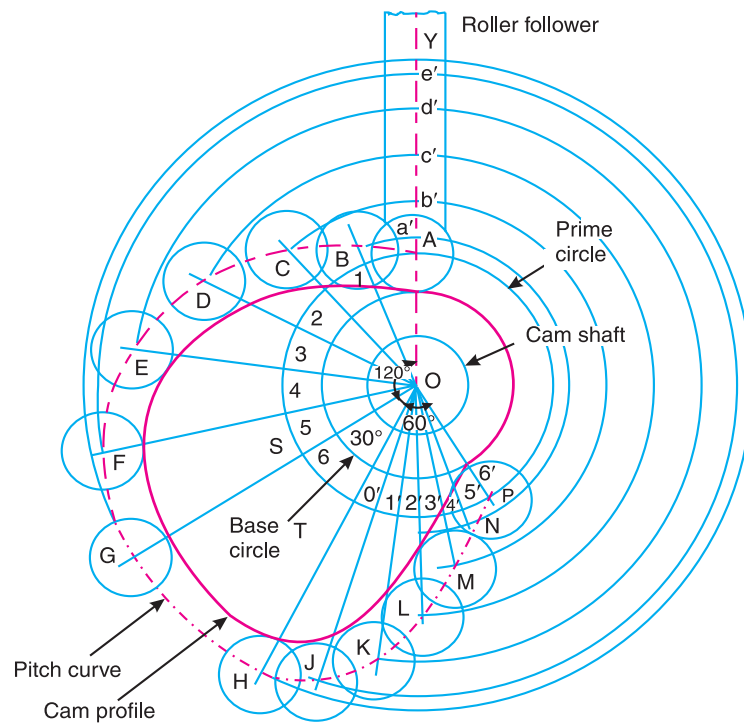

Fig. 20.17
The profile of the cam, as shown in Fig. 20.17, is drawn as discussed in the following steps :
5. Join the points 1, 2, 3, etc. with the centre O and produce the lines beyond prime circle as shown in Fig. 20.17.
9. Join the bottoms of the circles with a smooth curve as shown in Fig. 20.17. This is the required profile of the cam.